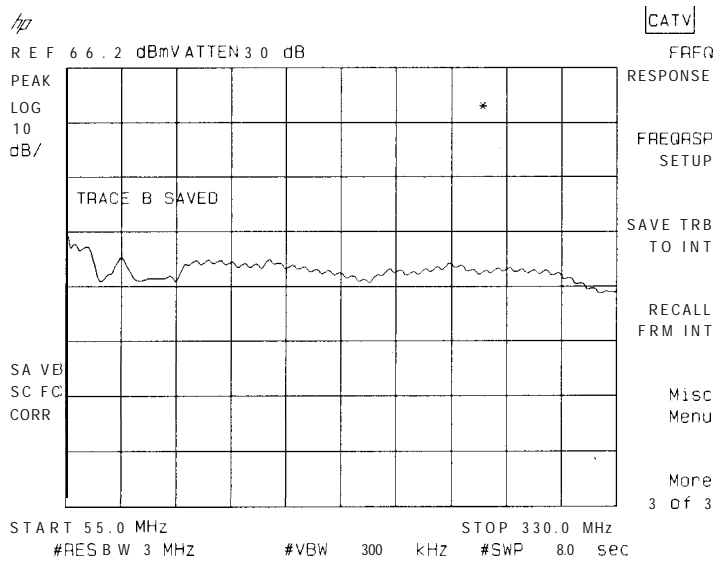

Figure 2-17.
5. Press **SAVE TRB TO INT**, enter a trace register number, then press **(ENTER)** to store the reference spectrum and spectrum analyzer state in nonvolatile memory. See the **SAVE TRB TO INT** function for more information about saving trace B. Wait until the message **TRACE B SAVED** appears before proceeding. See Figure 2-17.